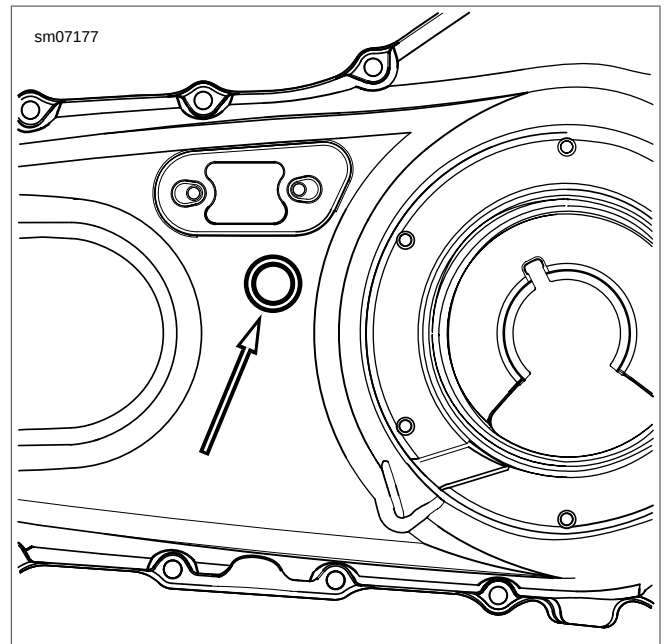

Figure 5-5. Shifter Shaft Oil Seal
14. See Figure 5-5. Remove and discard shifter shaft oil seal.